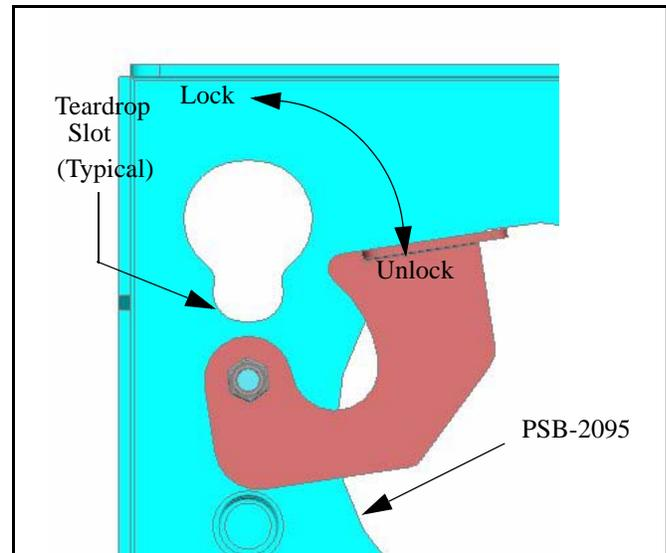

Figure 9: Locking Device
1. Make sure power is not supplied (turned off) to the display and the locking device is in the unlocked (down) position (see figure 9) before attempting to mount the display.
3. Secure the mounting bracket to the mount by completely engaging the locking device (see figure 9).